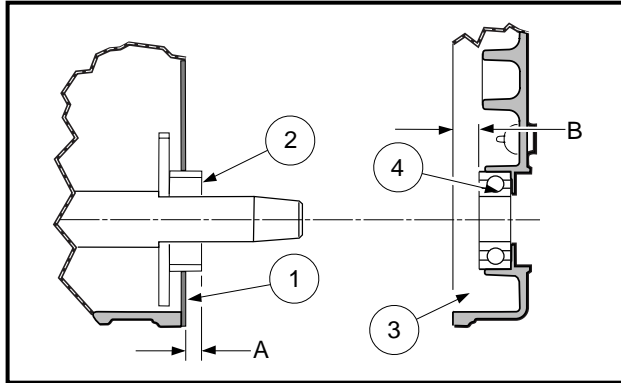

Figure 13-98 Determine Crankshaft Shim Size
1. With the gasket installed on the crankcase, measure from the gasket surface (1) to the helical gear surface (2). Record measurement (A) (**Figure 13-98, Page 13-45**).
2. Measure from the crankcase cover (3) mounting face to the crankshaft bearing inner end (4). Record measurement (B) (**Figure 13-98, Page 13-45**).